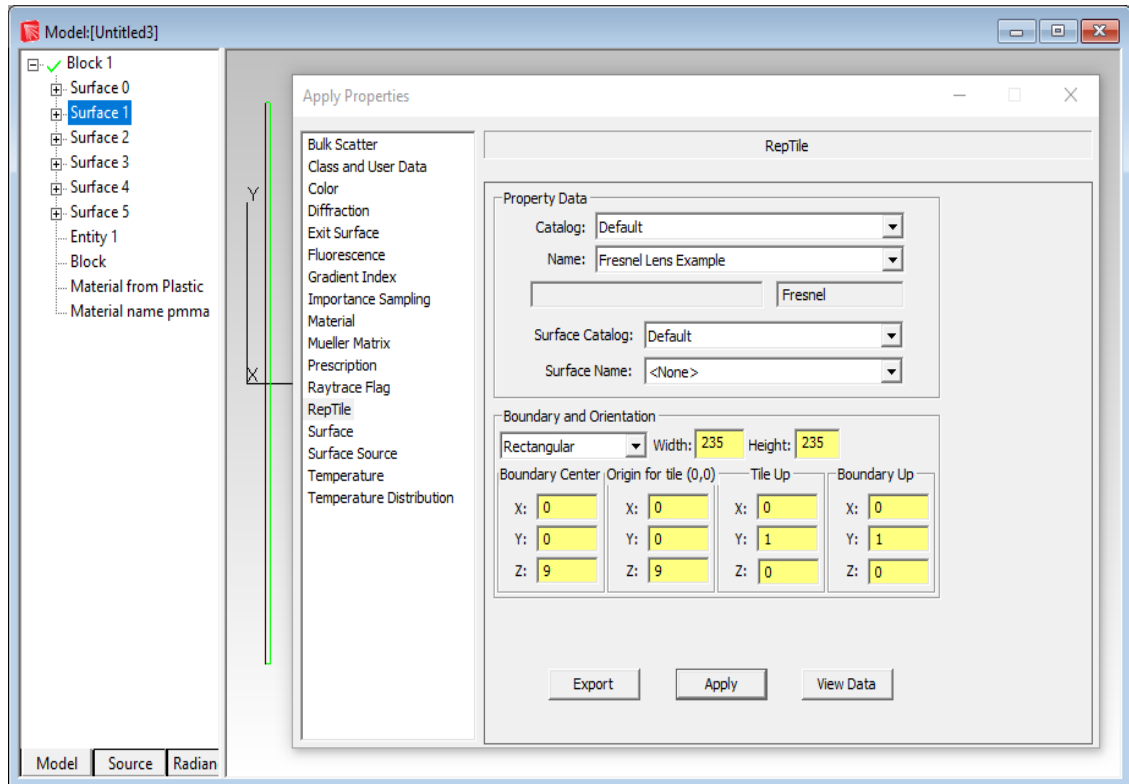

FIGURE 9.10 - Insert a block and apply the Fresnel Lens Example RepTile property to it.
- Now select the $-z$ surface of the block and apply the RepTile surface property using the *RepTile* tab in the *Apply Properties* dialog box. Fill in the values shown in Figure 9.10.